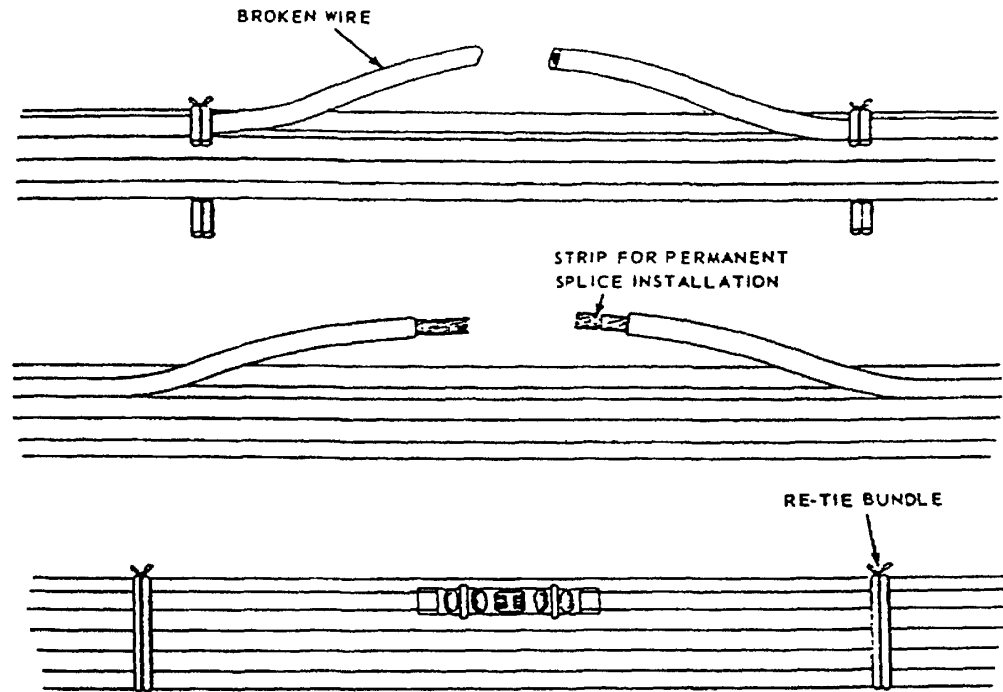

Figure 2. Permanent Splice Repair of Wire
19. When splicing wires by means of permanent splices, observe the following procedures (see Figure 2):